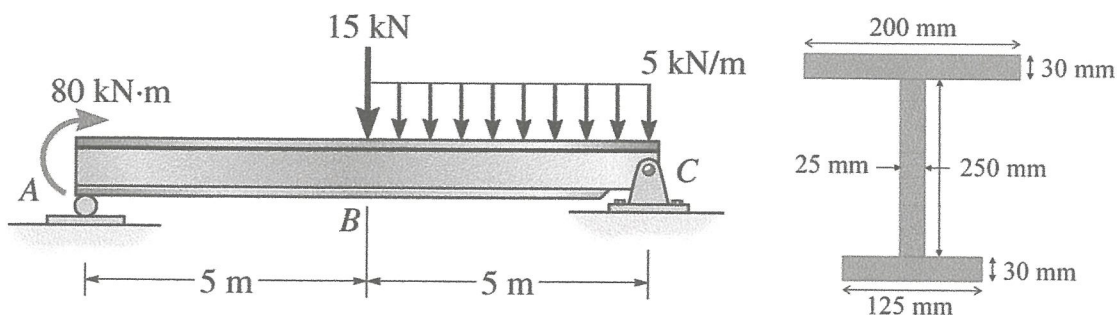

Figure Q3
- Q3.** The steel beam has the cross-sectional dimension area and subjected to the loading as shown in **Figure Q3**. Determine:-